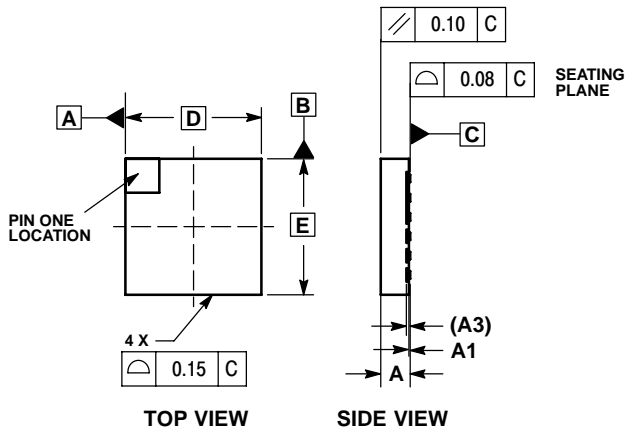

**Figure 20. Thermal Transient Response**
During the turn-on event, there is a large amount of energy dissipated due to the linear operation of the power device. The energy rating is the amount of energy that the device can absorb before the thermal limit circuit will shut the unit down. This is very important specially for the latch off device as it determines the maximum load capacitance that the device can charge before the thermal limit shuts the device down. The calculation of this is not very simple as it depends on several factors such as the input voltage ( $V_{in}$ ), load capacitance (CL), current limit settings (ILimit) and device’s thermal transient response, therefore, it is recommended to do lab evaluations for these purposes. Figure 20 shows the device’s thermal transient response for minimum pad.